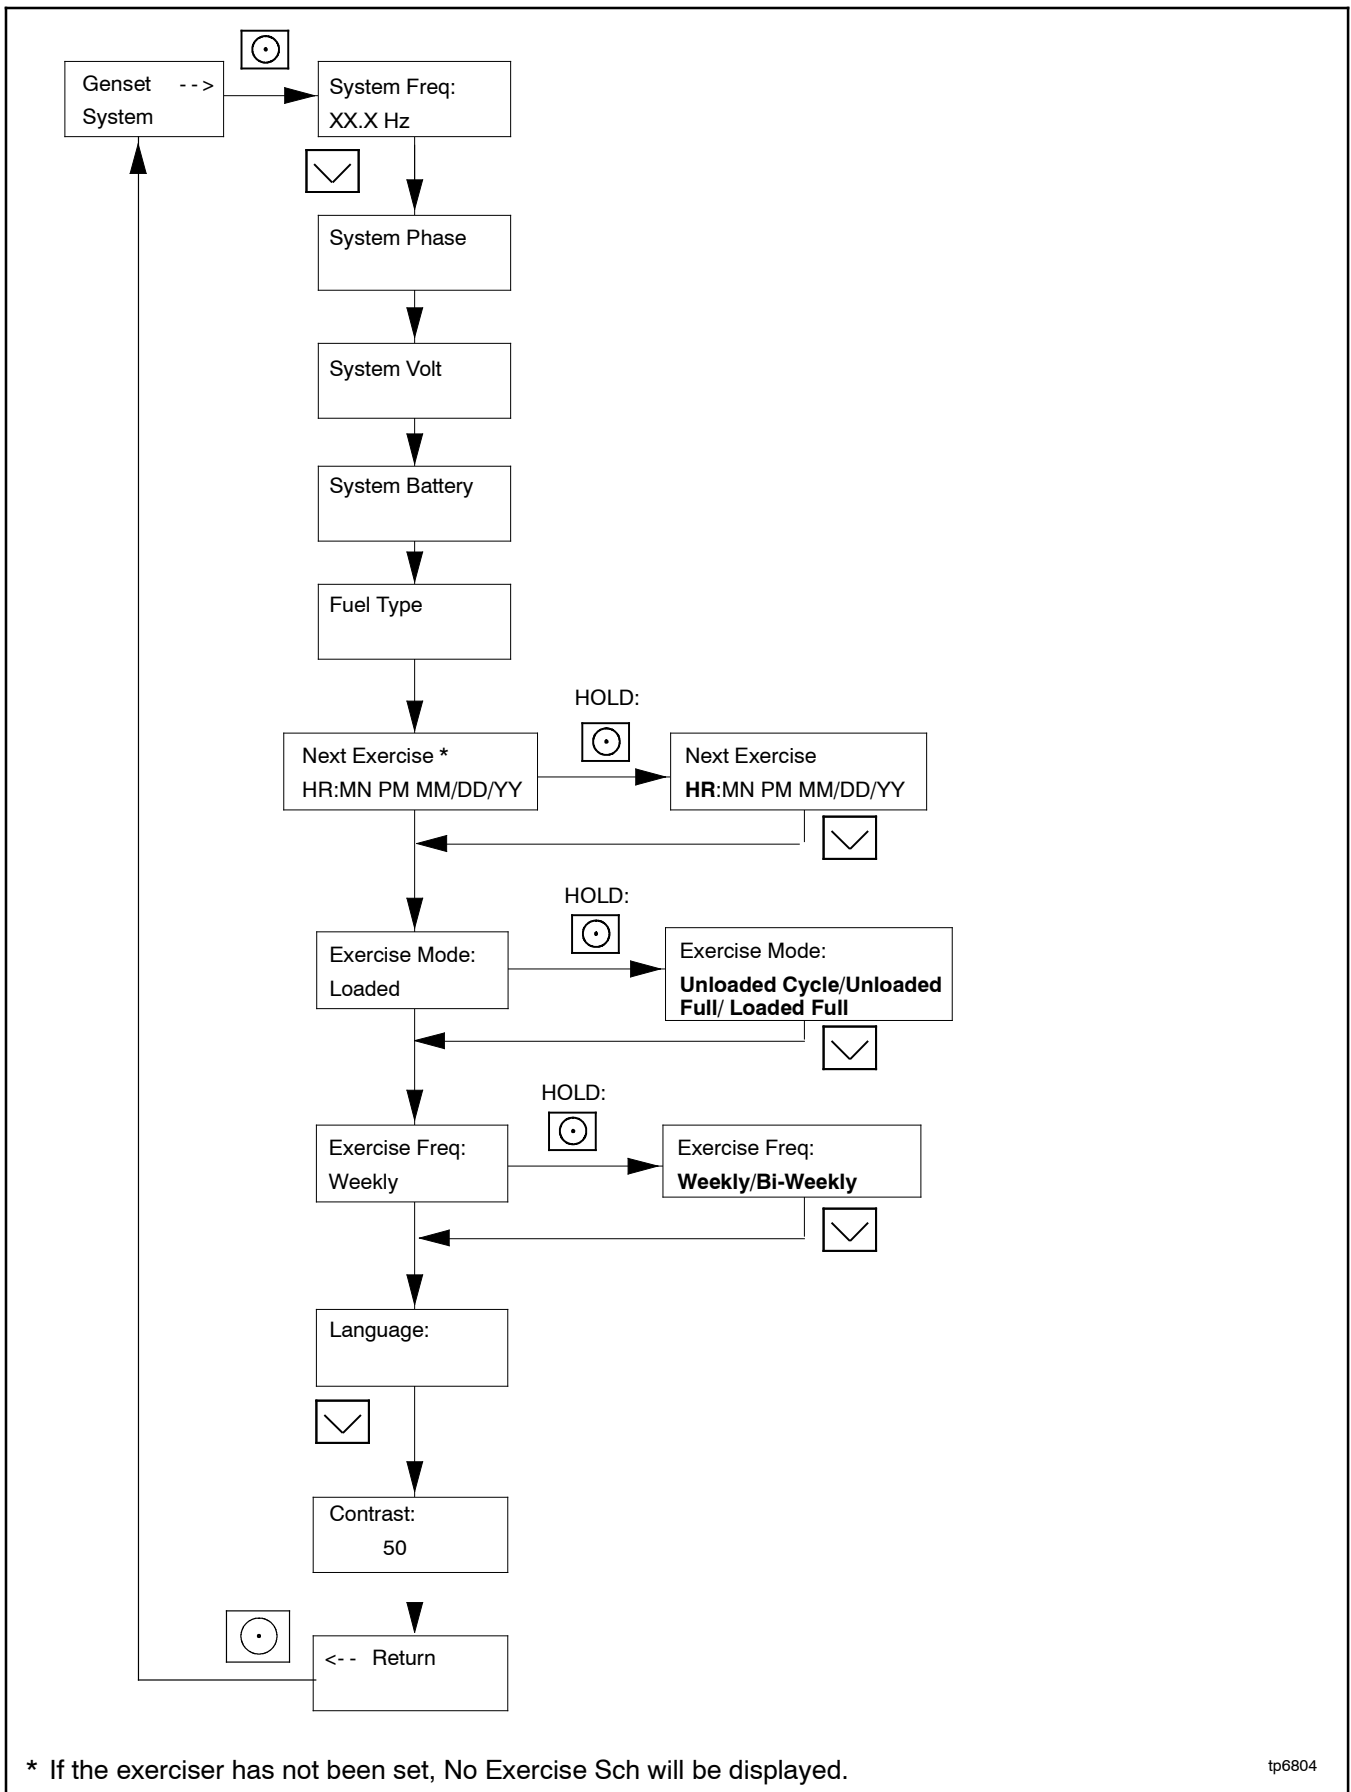

Figure 3-8 Procedure to Set the Exerciser on the RDC2 Controller
Follow the procedure below and see the flowchart in Figure 3-8 to set the exercise time and date, mode, and frequency.
4. Press the Select button to enter the Genset system menu. See Figure 3-8.
12. If the generator set is connected to a Kohler® Model RXT transfer switch, the exercise can be changed to a loaded exercise. Set the Exercise Mode to Unloaded Cycle, Unloaded Full, or Loaded Full (RXT ATS required) as shown in Figure 3-8. Unloaded Cycle is recommended. See Sections 2.5.2 through 2.5.4 for information about the exercise modes.